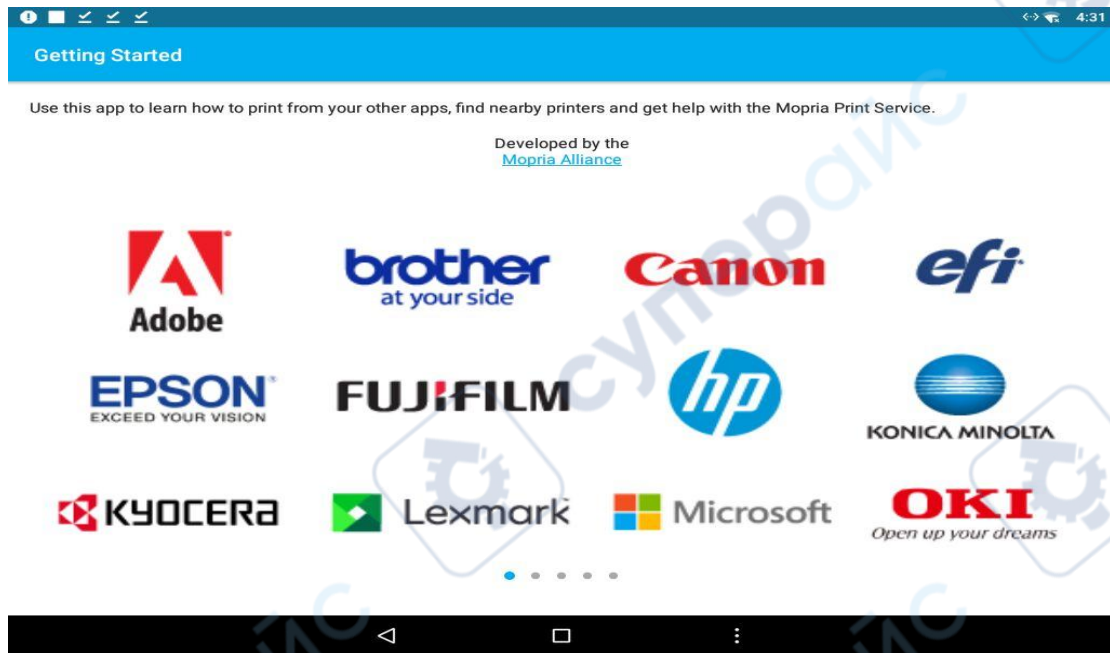
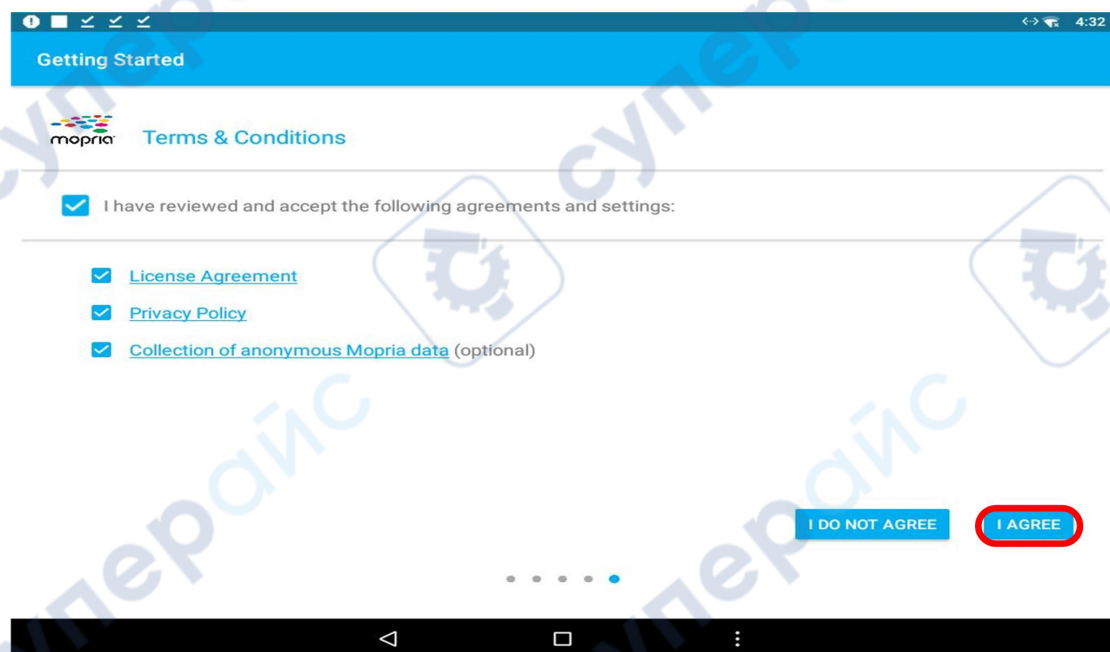

Figure 6
Figure 7
3、 Open the installed printing software, as shown in Figure 6. Go to the last page and check "**Agree**" license agreement and privacy policy. Click "**I AGREE**" to start using the software, as shown in Figure 7.